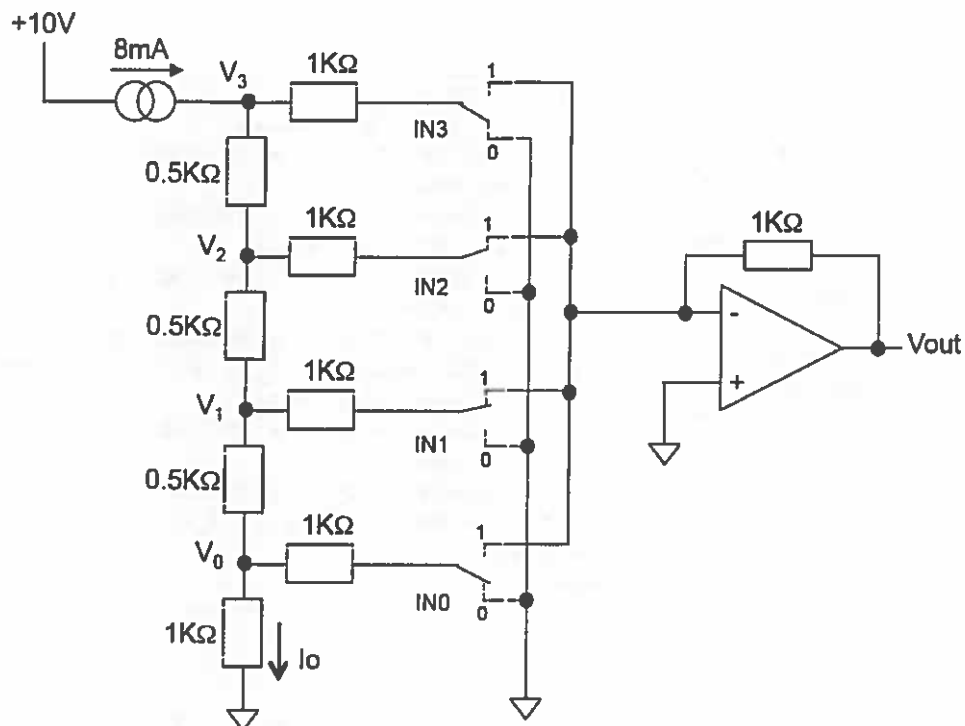

Figure 1.2
- (ii) Figure 1.2 shows a circuit for a R-2R 4-bit DAC with input $IN[3:0] = 4'b0110$. The resistor network is supplied via a 8mA ideal current source. The digital inputs $IN[3:0]$ control the four 2-way electronic switches. The output V_{out} is driven by an ideal operational amplifier.